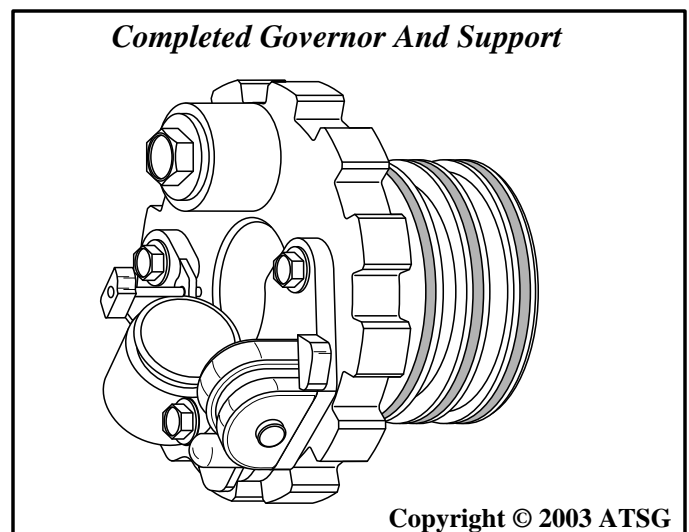

Figure 115
12. Set the completed governor and support aside for the final assembly process, ensuring that it is placed so that the valve does not fall out. Refer to Figure 115.